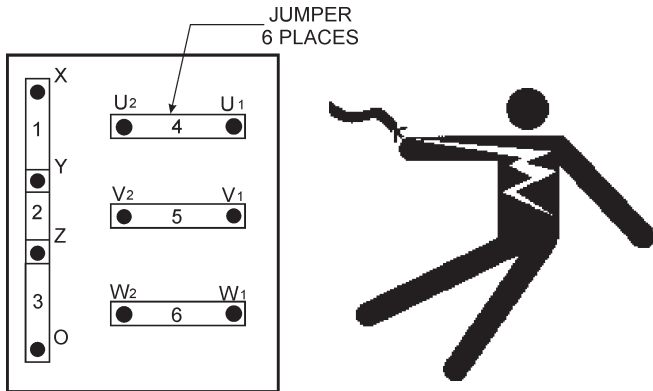

Figure 16. Voltage Change-Over Board
A wide range of voltages are available to supply voltage for many different applications. Voltages are selected by applying jumpers (6) to the _____ (Figure 16). To obtain some of the voltages as listed in Table 7 (see below) will require a fine adjustment using the _____ (VR) located on the control panel.
The _____ (Figure 16) is located on the control box, behind the generator control panel. This board has been provided for ease of voltage selection.